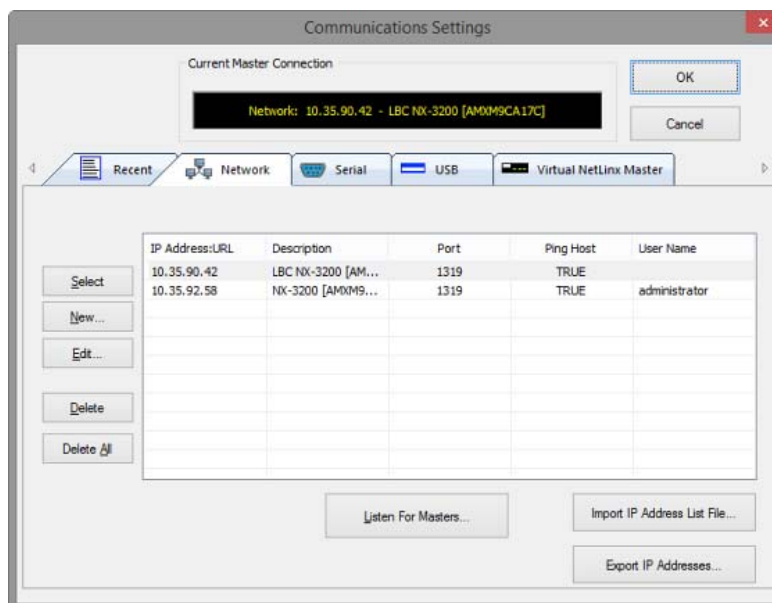

FIG. 126 Communications Settings dialog - Network tab
2. Click **System Settings** to open the *Communications Settings* dialog (FIG. 126).
- Once the communication settings have been set and the desired Master Controller is indicated in the *Current Platform-Transport Selected* field (FIG. 126), click **OK** to close the *Communications Settings* dialog and return to the *Workspace Communication Settings* dialog.